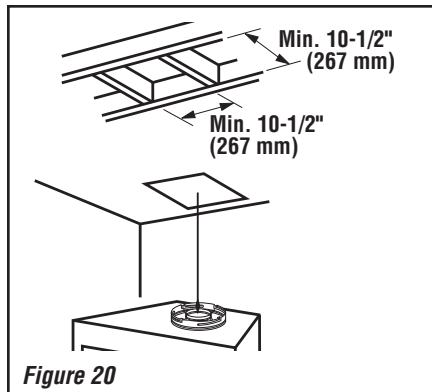

Figure 20
A. Frame ceiling opening—Use a plumb line from the ceiling above the appliance to locate center of the vertical run. Cut and/or frame an opening, 10 1/2 in. x 10 1/2 in. (267 mm x 267 mm) inside dimensions, about this center mark (**Figure 20**).
C. Frame ceiling opening—If the vertical route is to penetrate a ceiling, use plumb line to locate the center above the appliance. Cut and/or frame an opening, 10 1/2 in. x 10 1/2 in. (267 mm x 267 mm) inside dimensions, about this center (refer to **Figure 20 on Page 15**).